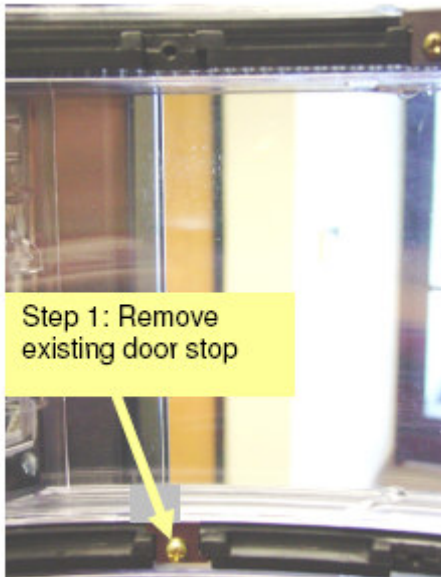

Figure 1
3. Remove existing door stop. Figure 1